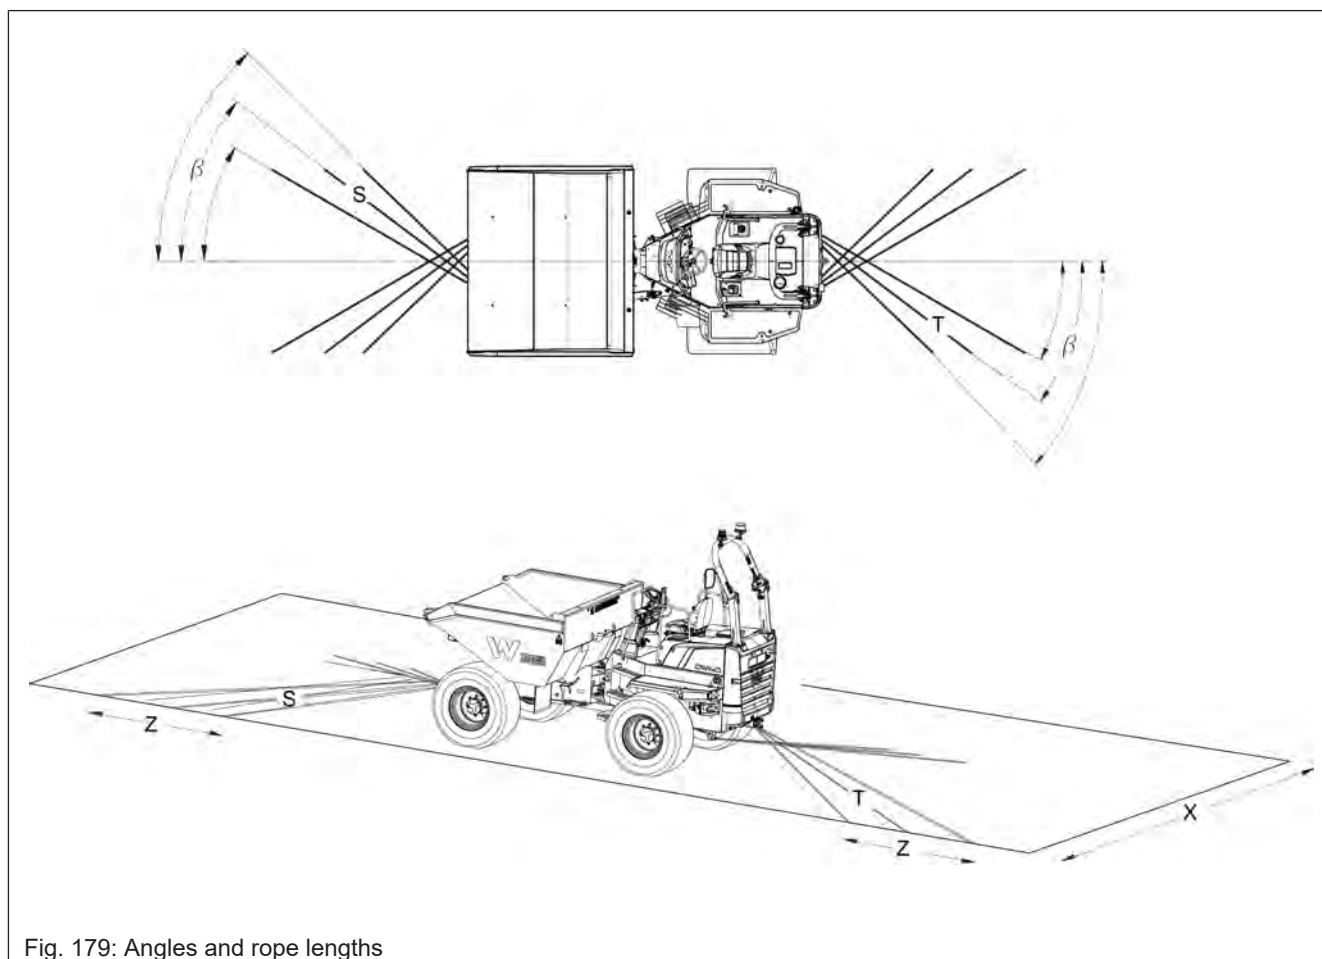

Fig. 179: Angles and rope lengths
2. Securely lash the vehicle to the loading area at lashing points **A** and **B** using adequately dimensioned slings. Observe the specified angles and lengths according to the specifications see Tie-down points on page 132(see Fig. 179 on page 132). Cross over the lashing equipment at the front and rear. Observe national and regional regulations.